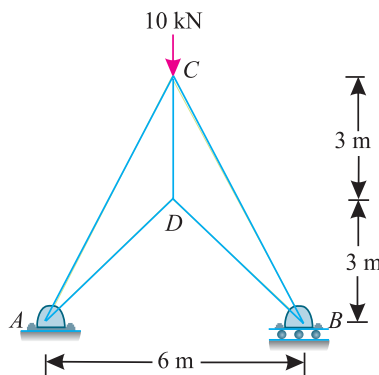

Fig. 13.17.
**Example 13.5.** A framed of 6 m span is carrying a central load of 10 kN as shown in Fig. 13.17.